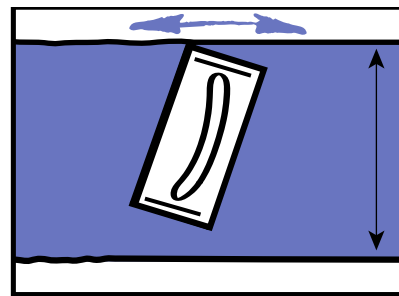

FIGURE 68 Sanding
- > Lightly sand to a smooth even surface using 180 to 220 grit sandpaper or sanding mesh. [Figure 68]